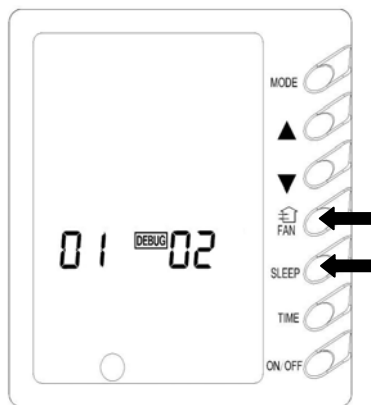

Fig. 7-12
7.2.11 Test Function (Fig. 7-12)